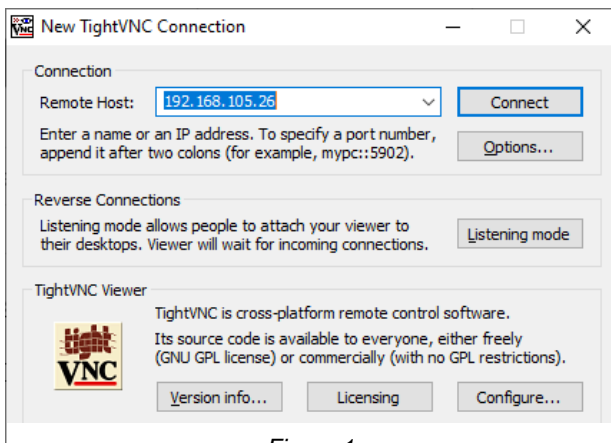

Figure 1
- Connect to the G-Force on the VNC using the IP address 192.168.105.26 (Ref: Fig 1)